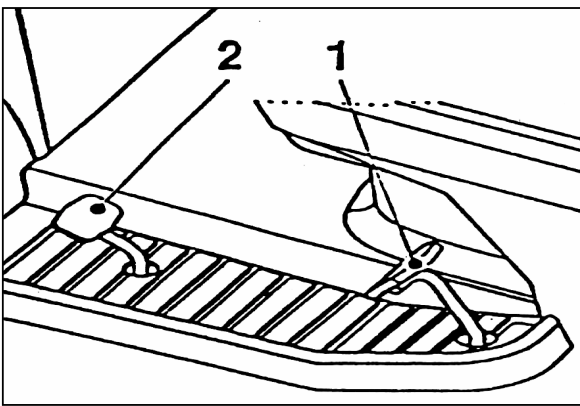

Fig. 18
The tractor is equipped with a hydrostatic transmission. It means that the forward and reverse speed can be achieved with the use of the pedals (Fig. 18).
Depress slowly the reverse motion pedal (Fig. 18, pos. 2).
When tractor is used for transport (not cutting), depress the forward motion pedal for maximum speed (Fig.18, pos.1).